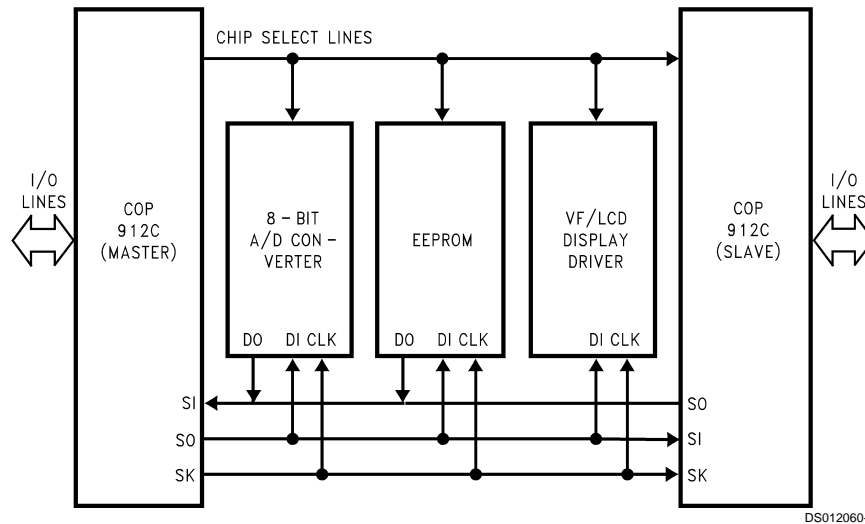

FIGURE 5. MICROWIRE/PLUS Application
ers, EEPROMS etc.) and with other microcontrollers which support the MICROWIRE interface. It consists of an 8-bit serial shift register (SIO) with serial data input (SI), serial data output (SO) and serial shift clock (SK). Figure 5 shows a block diagram of the MICROWIRE logic.
Setting the BUSY bit in the PSW register causes the MICROWIRE/PLUS to start shifting the data. It gets reset when eight data bits have been shifted. The user may reset the BUSY bit by software to allow less than 8 bits to shift. The device may enter the MICROWIRE/PLUS mode either as a Master or as a Slave. Figure 5 shows how two microcontrollers and several peripherals may be interconnected using the MICROWIRE/PLUS arrangement.